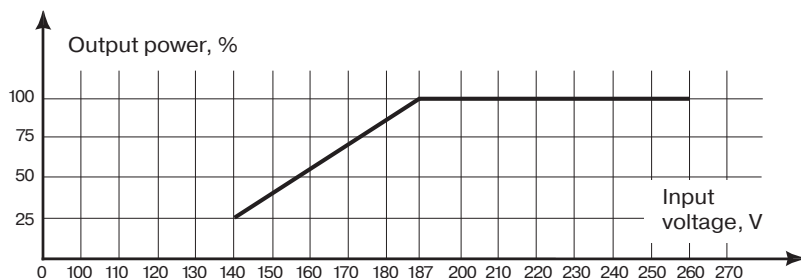

Fig. 7.
**Attention! When choosing an AVR, it is necessary to consider that reduction of input voltage increases value of input current, which means that maximum power of AVR is reduced too! Such dependence is shown in the graph (Fig. 7).**
• Press button ⑦. When the stabilizer turns on green LED «Working» gets activated. The digital LED display ② starts the countdown to actual issue of connected power load, while the red LED «Protecting» blinks. You can choose delay time of powerload issue by pressing Delay button ⑥ on the front panel. After the pause output voltage value is indicated on the LED display ②. By pressing the «I / O» button select indication of the display input or output voltage to be displayed. Input voltage is displayed via blinking indication.
- In case of overload or short circuit the thermal fuse is triggered. After fixing the cause of overload turn on the stabilizer (for low-end models, including protective fuse, pressing the button ⑩ on the rear panel).
- When the stabilizer input voltage is higher than 275 V or below  $140 \text{ V} \pm 3\%$  the regulator disconnects the load. At the same time LED operation indicator displays «H»/«L» sign (high / low input voltage). On the front panel «Protecting» indicator ④ lights up.